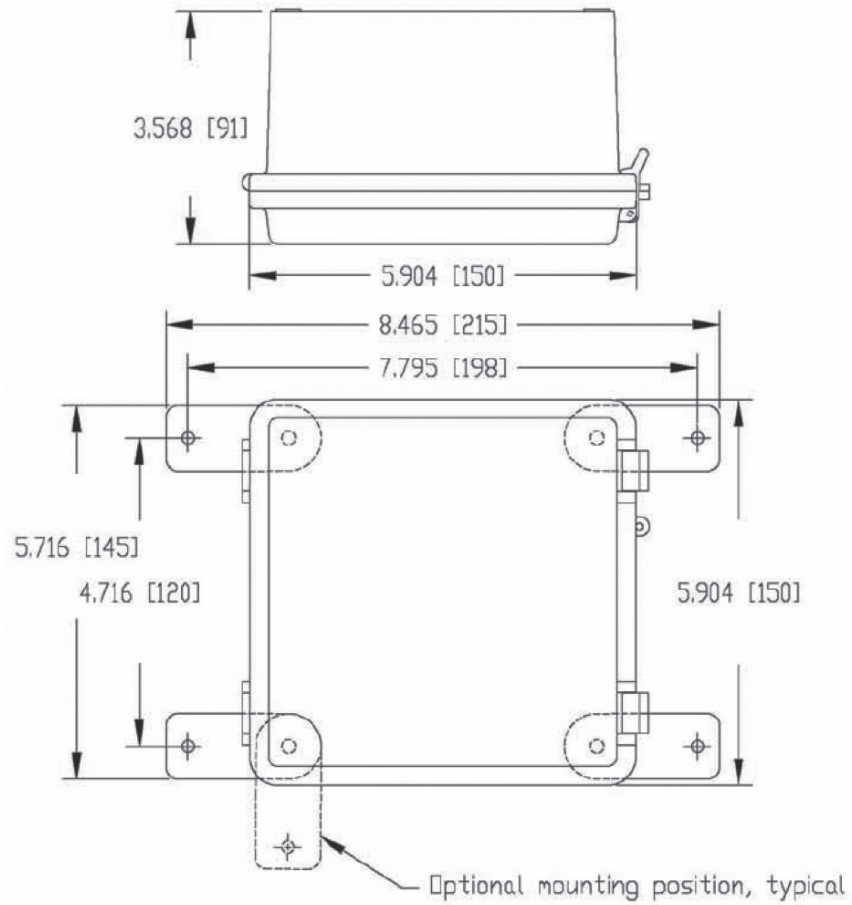

Figure 2 - Plastic Enclosure Dimensions
2. Plastic NEMA 4X enclosures, shown in Figure 2